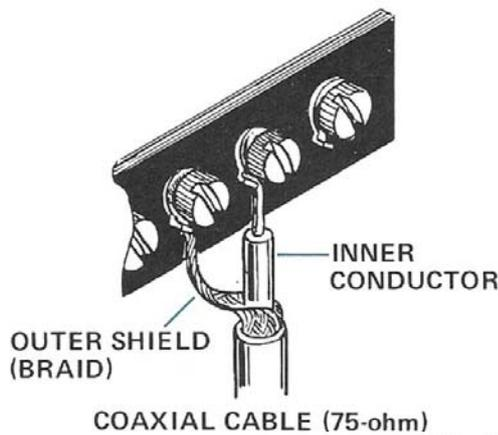

Fig. 5
- In locations adjacent to heavily traveled streets, around factories, or near high-voltage power transmission lines, use of an FM antenna may not give the desired noise attenuation. In such cases, consult you sales dealer concerning a coaxial cable feeder (75-ohm) for the FM antenna. When coaxial cable is used, make connection to the tuner as shown in Fig. 5.